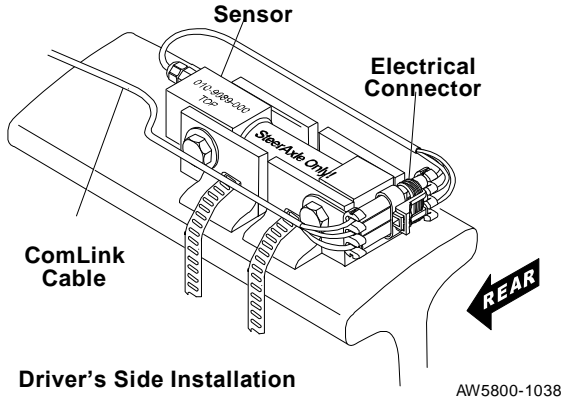

Figure 13. Placing the ComLink Cable for a Driver's Side Hookup
1. Facing towards the rear of the vehicle, route the cable from the connector assembly so it runs to the right of the steer axle sensor assembly. See Figure 13.